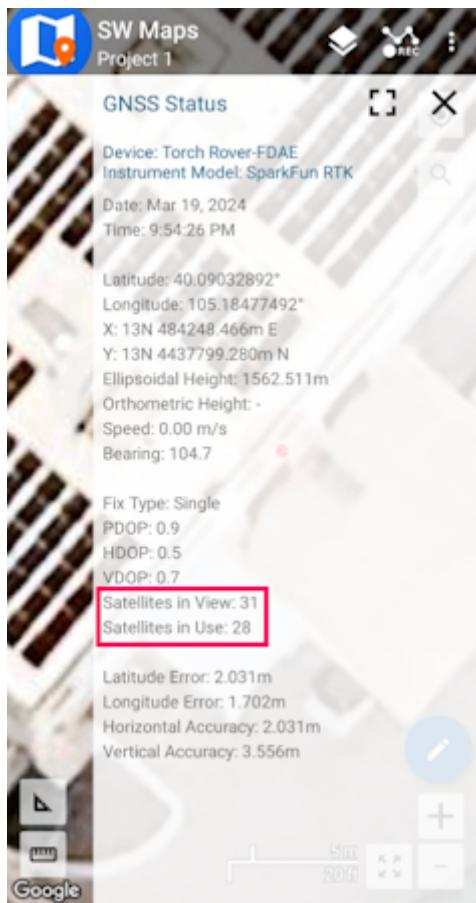

Figure 5
7. Make sure the GNSS antenna is outside with a clear view of the sky. GNSS doesn't work indoors or near windows. Press the SW Maps icon in the top left corner of the home screen and select **GNSS Status**. Within about 30 seconds you should see 10 or more satellites in view (SIV) (Figure 5). More SIV is better. We regularly see 30 or more SIV. The horizontal positional accuracy (HPA) will decrease as more satellites are acquired. The lower the HPA the more accurate your position.